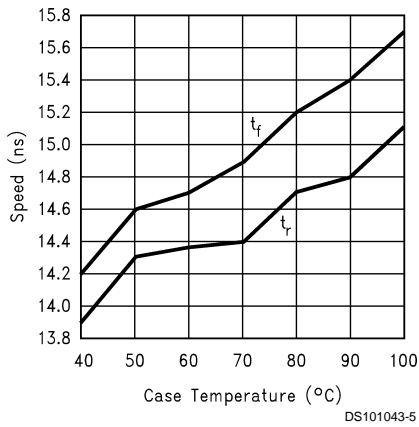

FIGURE 4. Speed vs Temp.
*Figure 4* shows the performance of the LM2438 in the test circuit shown in *Figure 2* as a function of case temperature. The figure shows that the rise time of the LM2438 increases by approximately 5% as the case temperature increases from 50°C to 100°C. This corresponds to a speed degradation of 1% for every 10°C rise in case temperature. The fall time increases by approximately 7.5% as the case temperature increases from 50°C to 100°C. This corresponds to a speed degradation of 1.5% for every 10°C rise in case temperature.